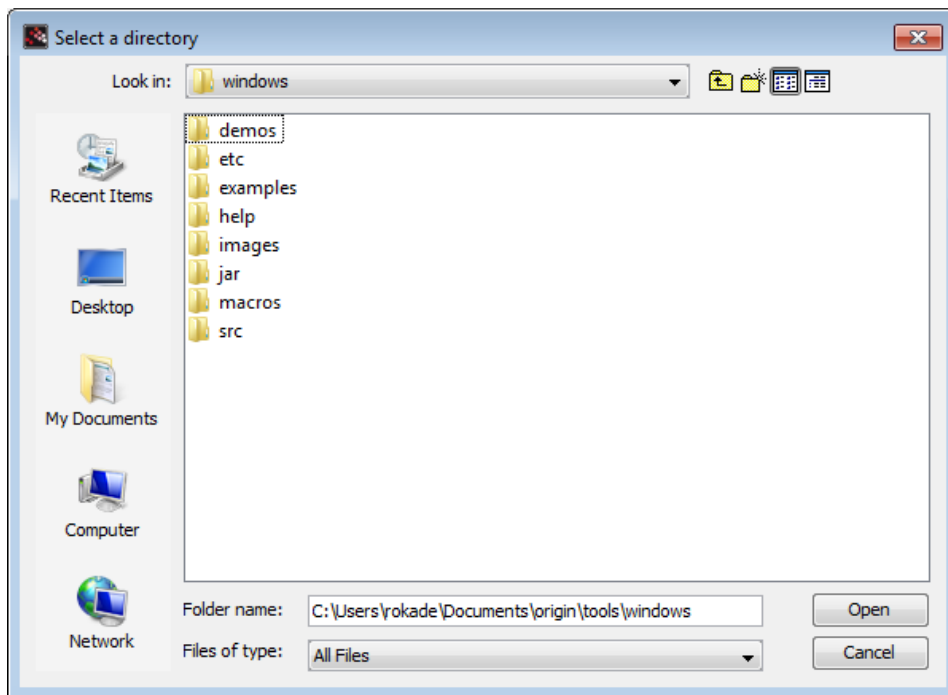

Figure 3.7: Browsing toolbox directory
3. Then, one has to browse to the toolbox folder **Origin/tools/windows** or **Origin/tools/linux**, as the case may be, and click on, **open**, as shown in Fig. 3.7.